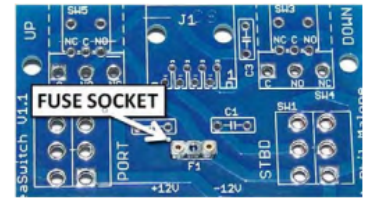

Figure 3.3-2: Fuse Socket Installed at the Location Labeled "F1"
2) Locate the fuse socket. Place its two pins through the holes at the location on the board labeled "F1," as shown in Figure 3.3-2 (remember, all components go on the side of the PCB that has the white lettering). Use a small piece of electrical tape to hold the socket in place. Flip the board over and place it on a tabletop. Press down on the PCB to hold the socket flat against the board, and solder the two connections. Melt only about 1/4" of solder into each connection, let them cool for a few seconds before moving anything, and make sure that there are no solder bridges between the connections. (Remove excess solder if needed by touching the solder bridge briefly with a clean, hot, soldering iron tip.)